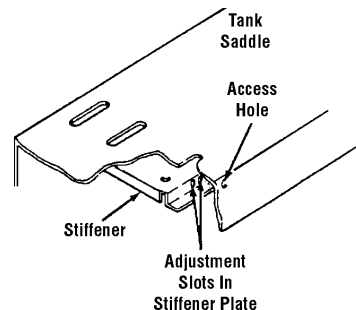

Figure 4 - Belt Adjustment Points
2. To tighten the belt, insert a large screwdriver into the hole in the air compressor saddle located on the belt guard side of the saddle below the motor, and pry the stiffener plate back. Refer to Figure 4.